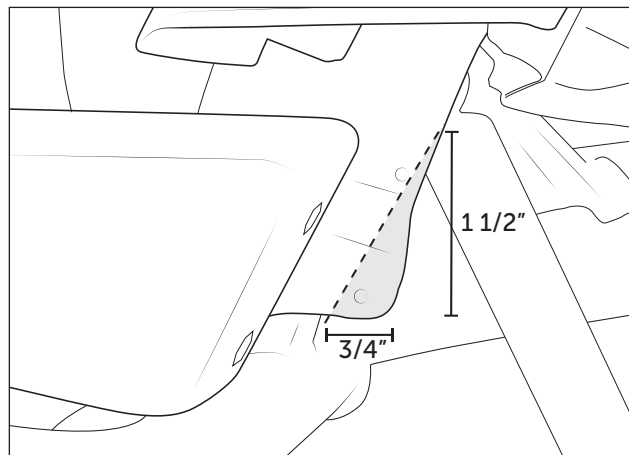

Figure 2
- B. Mark $1\frac{1}{2}$ " up from bottom and $\frac{3}{4}$ " from front of exposed pinch weld and trace diagonal line onto the exposed pinch weld. Use cutoff wheel or body saw to trim off BOTH LAYERS at trim line (fig. 2).